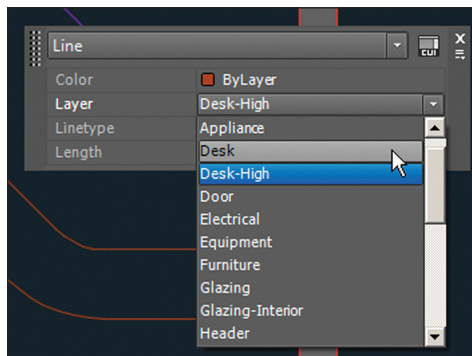

FIGURE 6.3 Assigning a different layer to the selected object
4. Open the Layer drop-down and observe that the layer in blue is what is currently assigned. Select Desk (see Figure 6.3) in the drop-down and press the Esc key to exit Quick Properties mode. Press Ctrl+Shift+P to toggle off Quick Properties mode. Observe that the line whose layer property you changed now appears violet, like the other objects on the Desk layer.